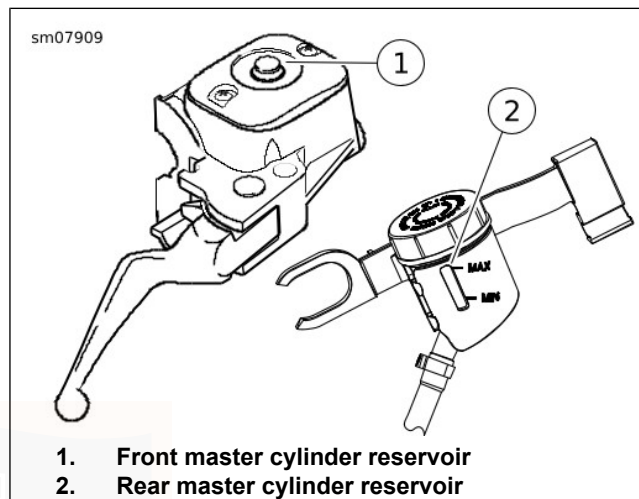

Figure 53. Brake Fluid Sight Glass (typical)
1. See Figure 53. Check fluid level in brake master cylinder reservoir. Position vehicle on a flat level surface. Turn handlebar so master cylinder is level.